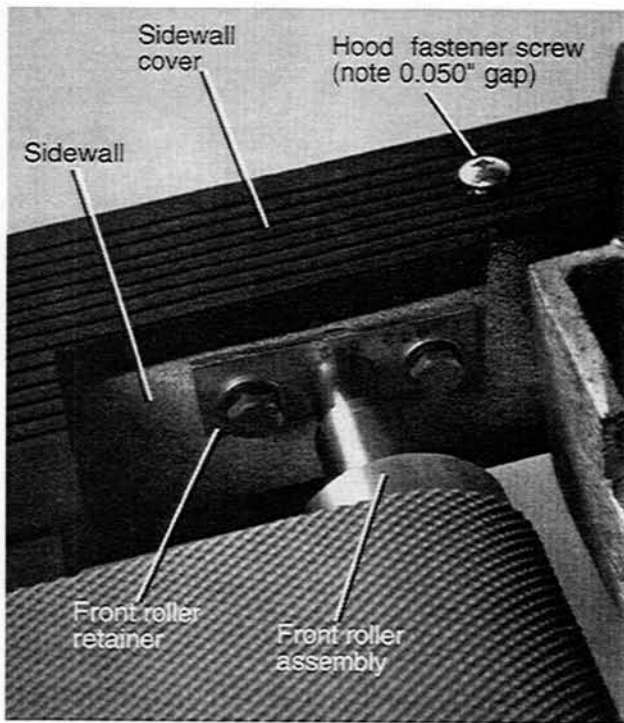

Figure 3-19. Siderail Screw and Drive Pulley Retainer
3. Remove the two Phillips screws from the siderails. These screws attach the hood to the siderails at the rear of the hood. See Figure 3-19.
6. Remove the four 5/16" hex bolts that secure the two front (drive) roller retainers to the frame. There are two on each side of the drive roller assembly (Figure 3-19 on page 3-12.)